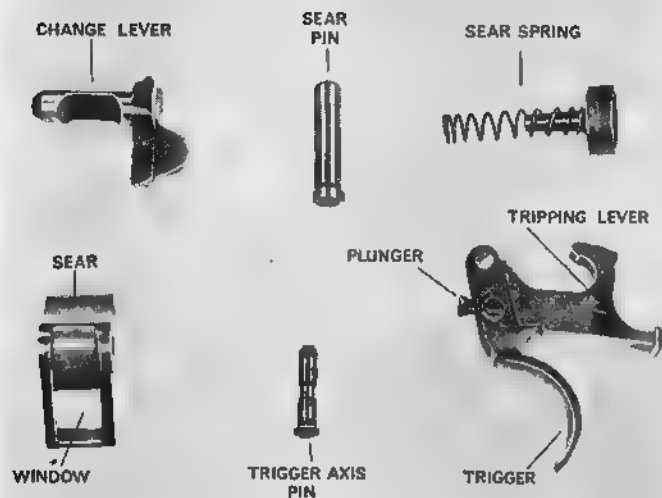

Fig 25.—The trigger group
7. **The trigger group (see Fig 25):—**